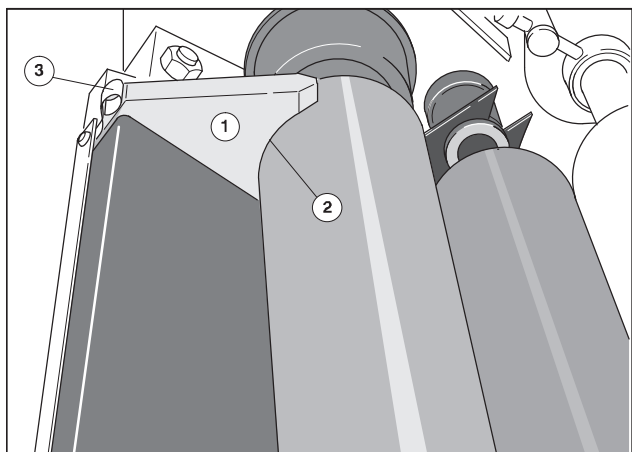

Fig. 12 Ink fountain cheeks
1. When the ink fountain has been moved away from the ink fountain roller, the ink fountain cheeks (Fig. 12/1) can be removed for cleaning.
2. Clean the contact area of the ink fountain cheeks with the ink fountain roller (Fig. 12/2) and the groove in the ink fountain using a roller cleaning agent.
When the ink fountain is engaged at the ink fountain roller, then the ink fountain cheeks are clamped by the spring (Fig. 12/3).